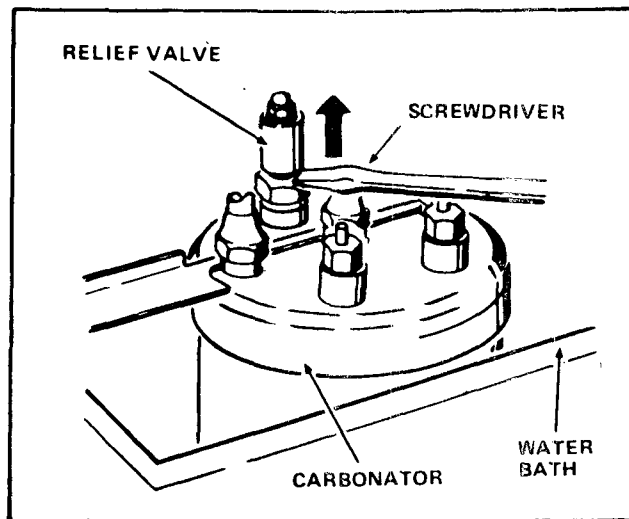

FIGURE 9
15. Using the blade of a screwdriver, lift the Relief Valve located on top of the Carbonator as shown in Figure 9.